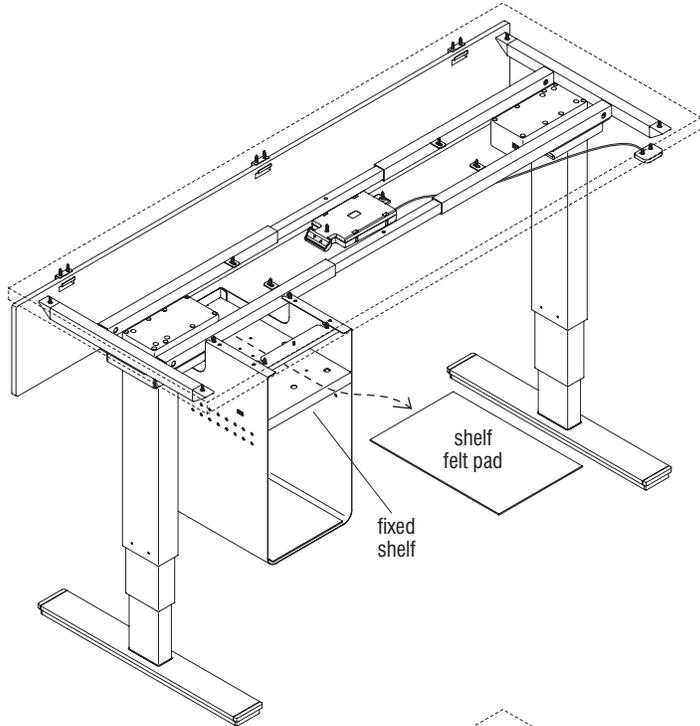

Figure 1
1. Remove the shelf felt pad on top of the fixed shelf (Figure 1).